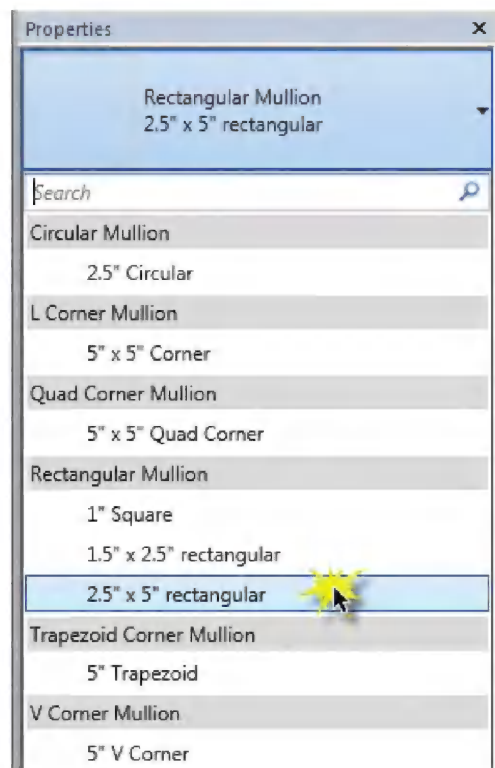

FIGURE 8-5.7B
14. Select Rectangular Mullion: 2.5" x 5" rectangular from the *Type Selector* (Figure 8-5.7B).
In this example, you will not place a corner mullion. This will be a butt-joint condition where the two panes of glass are held together with silicon in the corner. However, figure 8-5.7B shows corner mullions that can be added.